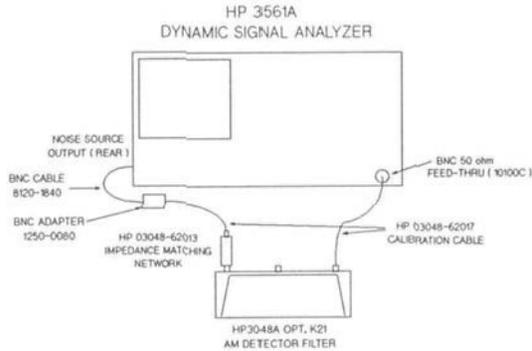

FIGURE 3-4. SETUP FOR FLATNESS TEST WITH HP 3561A
6. Replace the Calibration Load with the AM Detector Filter as shown in Figure 3-4 and set the 'DETECTOR POLARITY' switch to the 'POS' position.